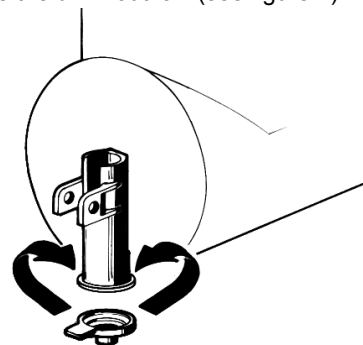

figure 4
**10** Restrictor cap: when the unit is used in Soft Drink mode it is advisable to install the restrictor cap on the faucet outlet in order to reduce the drink outflow (see figure 4).